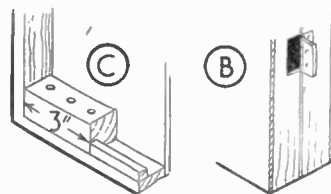

FIG. 3
gain in strength. This is provided with three holes in which the darts can be dropped, when not wanted for playing. This is shown in detail (C) in Fig. 3. Level with the edge and extending from the block to the opposite side of the cabinet, a strip of wood $\frac{1}{2}$ in. square section is glued and pinned, as shown, leaving a space behind to accommodate the chalk necessary for scoring.
gain in strength. Mark the position most accurately of the hinges, and recess the leaves of them flush, as in detail (B) in Fig. 3.